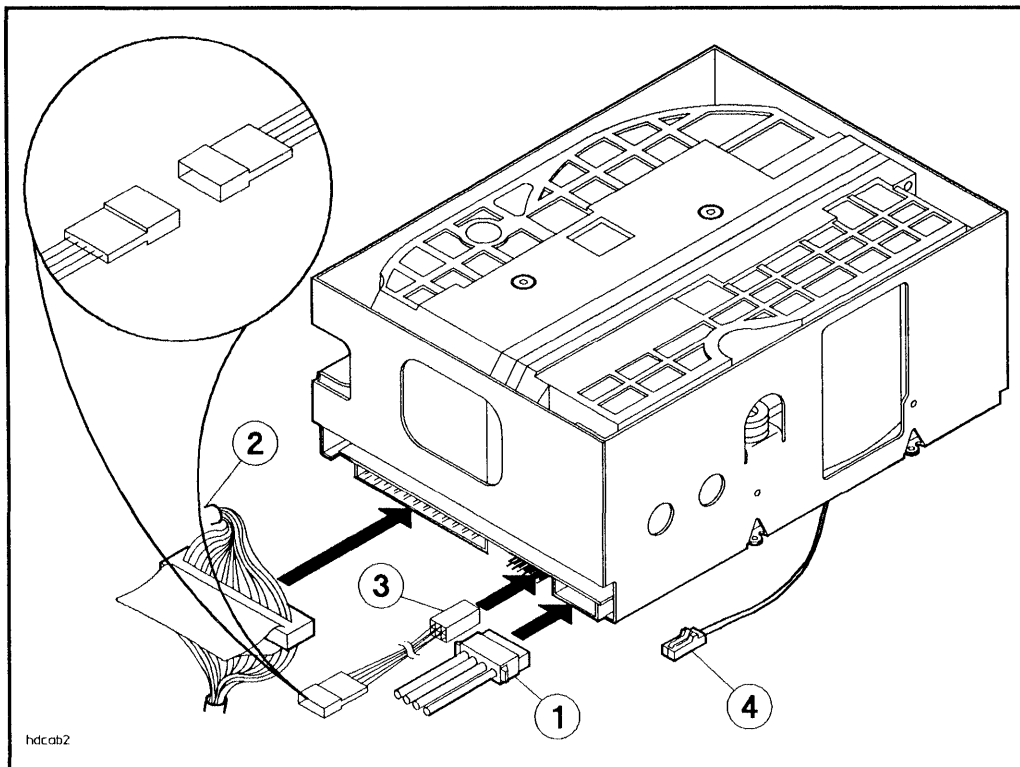

Figure 2-6. Connecting Cables to the 5.25-inch Hard Disk Drive
1. Connect the appropriate address cable to the SCSI address cable on the drive (see Figure 2-6). The address cables in the mass storage system are numbered according to slot number.
3. Connect the internal SCSI cable to the drive (see Figure 2-6).